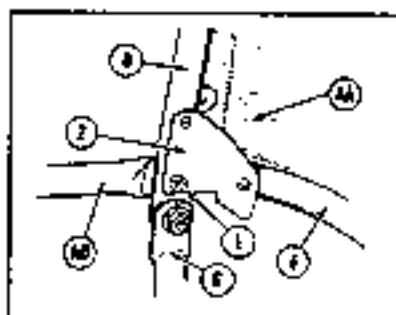

FIGURE 1
The present rope starting pulley, located on the side of the transmission must be removed and replaced with the generator drive pulley, V, Fig. 4, and the new shallow rope starting pulley, U, Fig. 4. Use capscrews, A, Fig. 1, and lockwashers for the re-assembly of these two parts to the transmission drive pulley.
The belt, B, Fig. 1, is then applied between
3. Bolt together (D), (F) and (U) on both sides as detailed in Fig. 1.
2. Remove screw (#1, Fig. 1) and attach the rear end of member (AD) to outside as shown.
3. Repeat above step on opposite side, attaching member (AE) in a similar manner.
4. Remove nuts holding (B) to (H) and tilt whole canopy assembly all the way to the rear.
5. Thread member (AB) through channel in bottom part of front window section (AH).
6. Attach one end of each member (AC) to the lower front corners of (AB) through the openings at that point in the front window assembly (AH).
A. Stop plate tabs (#2, Fig. 1) must be properly lined up with the rear member so that it will not slip to the side. The purpose of these stop plates is to eliminate the possibility of interference between the rear counterweight and the cab when the cab is tilted to the rear.